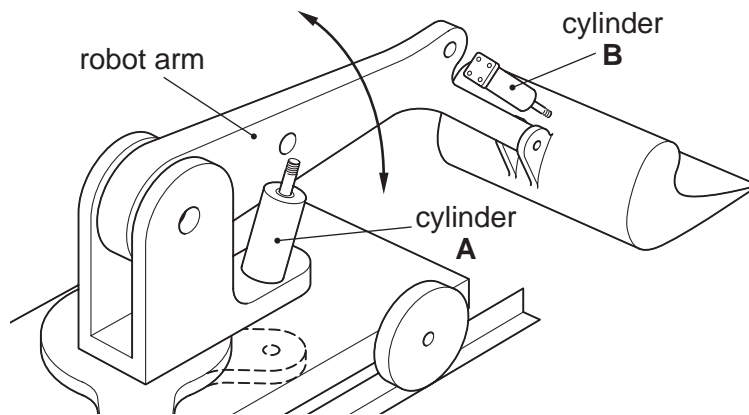

Fig. 3
- 2 The robot arm is raised and lowered by cylinder **A**, as shown in Fig. 3 below.